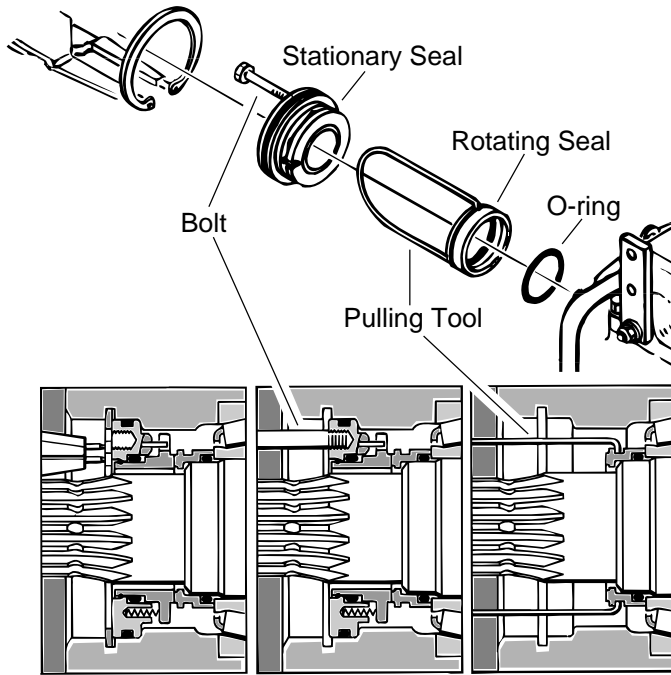

Figure 8
- 5 Use the special pulling tool, Owatonna Tool Co. P/N CAS 1844, to remove the rotating seal, see figure 8. If the special tool is not available pull out the rotating seal with a wire bent to the shape of the puller.